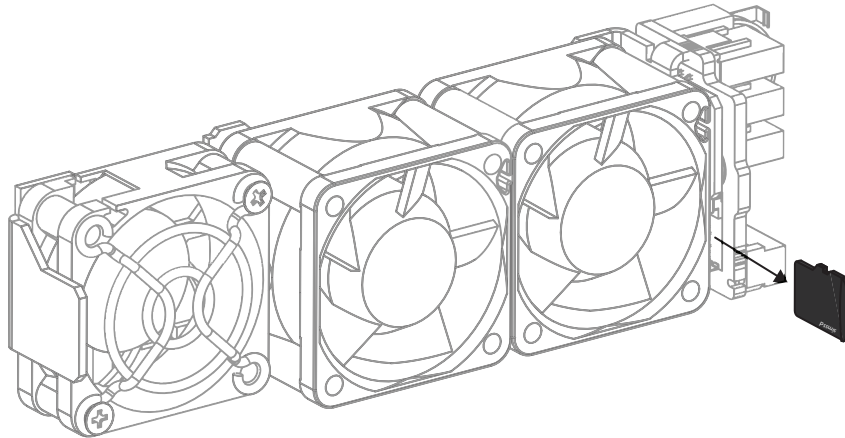

Figure 5 Location of Micro SD Card Slot — Between the Fan and the Fan Board
2. Locate the Micro SD card slot inside the failed Cooling Fan Module. (**Figure 5**)
1. Locate the Micro SD card slot inside the new Cooling Fan Module. (**Figure 5**)